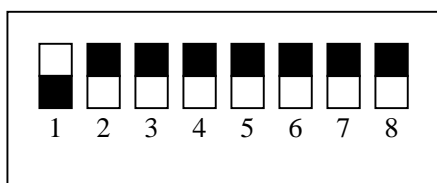

Figure 16.1 SW
① Set the Dip switch No.1 as shown in figure 16.1.